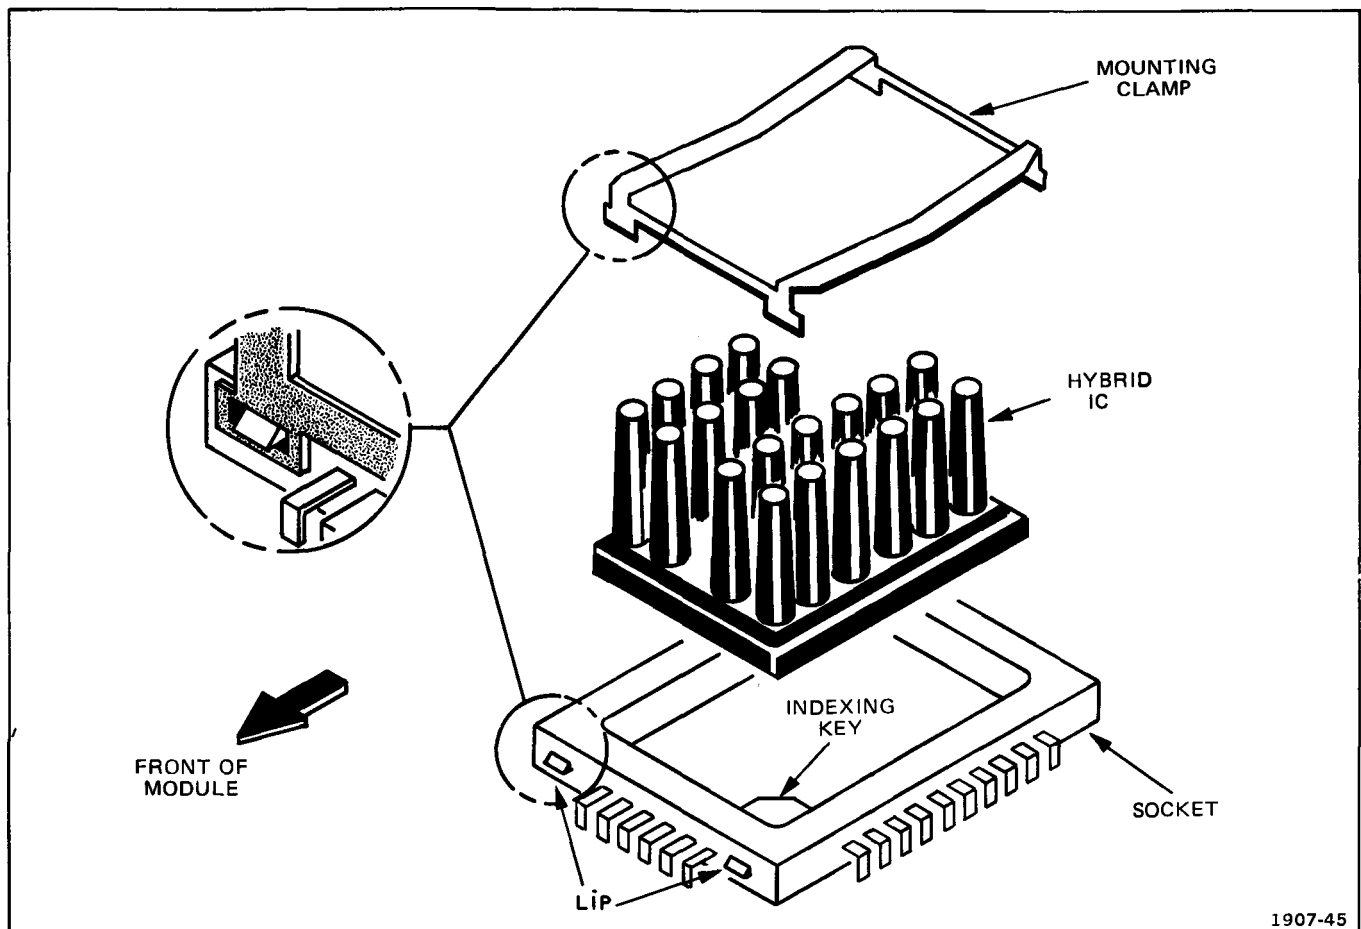

Fig. 5-8. Hybrid IC replacement.
1. Insert narrow-blade screwdriver between socket and one lip of mounting clamp as shown in Fig. 5-8. Rotate screwdriver to release clamp from socket.